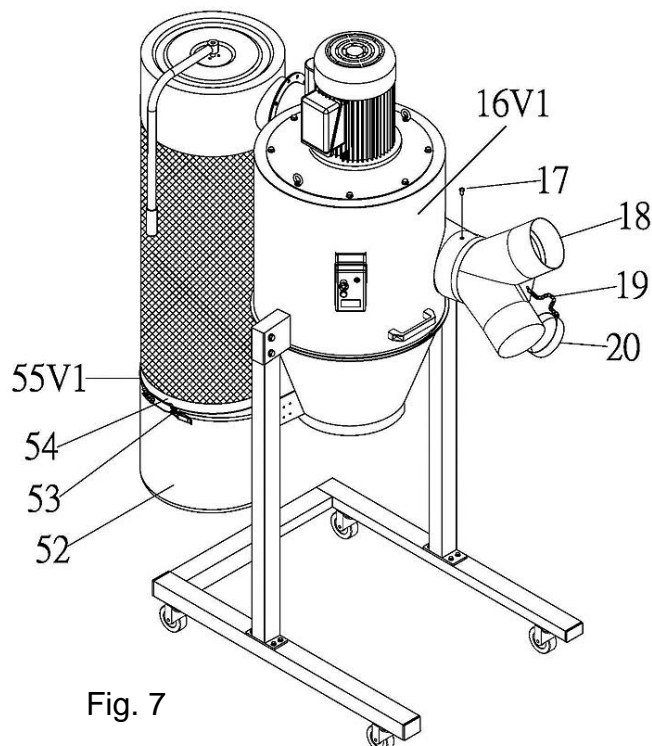

Fig. 7
8. Assemble Inlet Adaptor (NO.18) on Main Housing (NO.16v1) and tighten with Phillips Head Screw $3/18"$ x $3/8"$ (NO.17). See FIG. 7
9. Paste Foam (NO. 54) as a circle on the bottom of canister filter (NO. 55v1), and tighten the PE Bag (NO. 52) with Bag Clamp (NO. 53). See FIG. 7